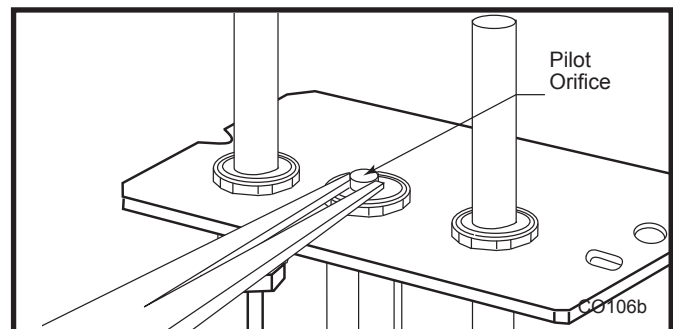

Fig. 73 Remove pilot orifice.
- Remove pilot orifice with needlenose pliers. (Fig. 73) **NOTE:** Use a wrench to hold pilot tube in place while removing the orifice.